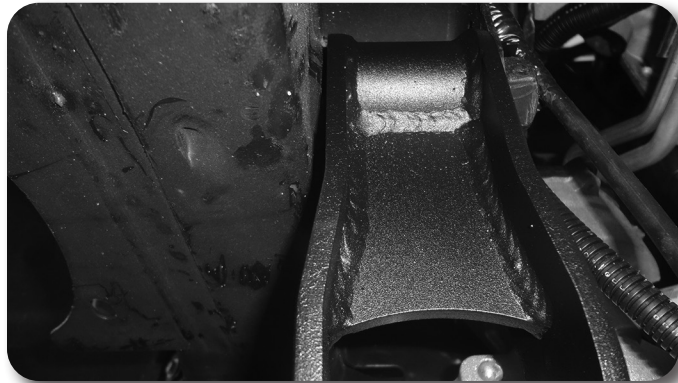

Figure 24
35. Install the new driver's side differential bracket to the original mount with the factory long bolt Fig. 24 & 25. Let the bracket hang until the differential is mounted in a later step. Leave hardware loose.